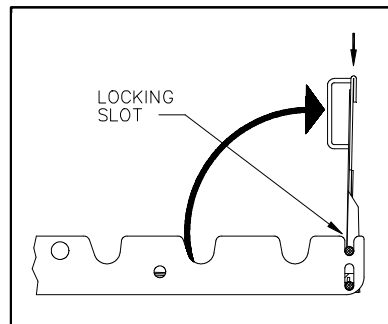

FIGURE 3-27: RAISE OUTER ROLLSTOP
- 9) Refer to **Figure 3-27**. Grasp rollstop handle and raise outer rollstop to vertical position, then drop it into locking slots. Test rollstop to be certain it is locked in place.